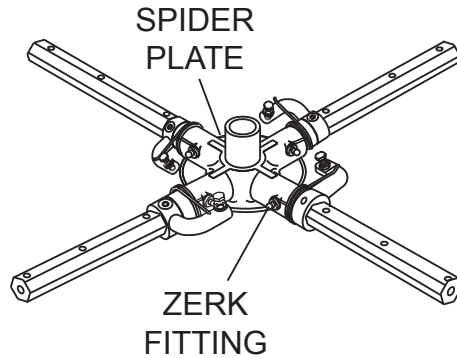

**Figure 34. Trowel Blades**
- Remove the trowel blades from the trowel arm by removing the three hex head bolts (Figure 34) from the trowel arm. Set the blades aside.